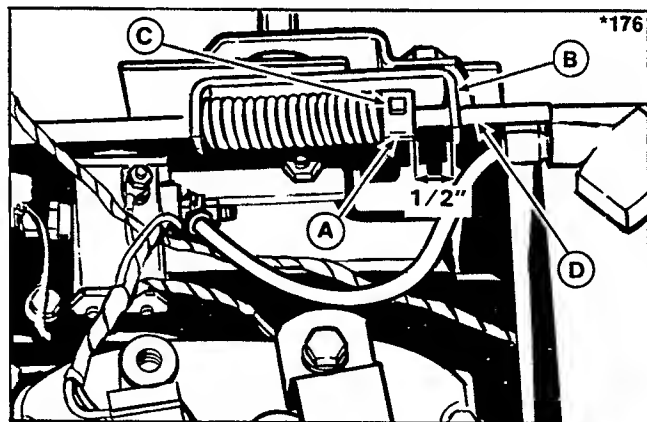

Figure 11. PTO Adjustment
2. Raise the seat deck. Measure the distance between the set collar (A, figure 11) and rod guide (B). The distance should be 1/2 inch (13 mm). If not, proceed to step 3.
3. Disengage the PTO. Loosen the setscrew (C) and change position of set collar on rod by pulling or pushing on rod. Tighten the setscrew.